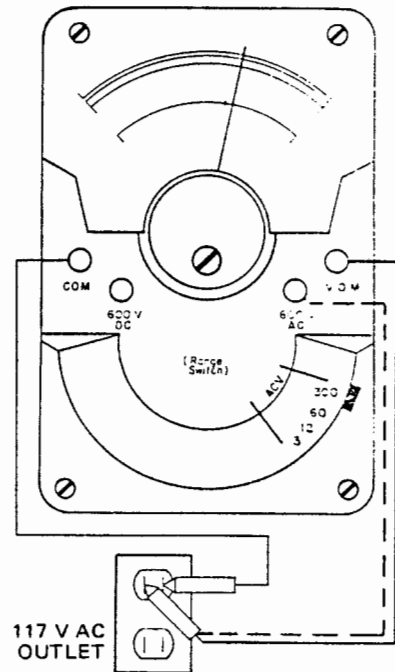

FIGURE 4 — AC Voltage
- C. AC Voltage measurements (Refer to Figure 4).